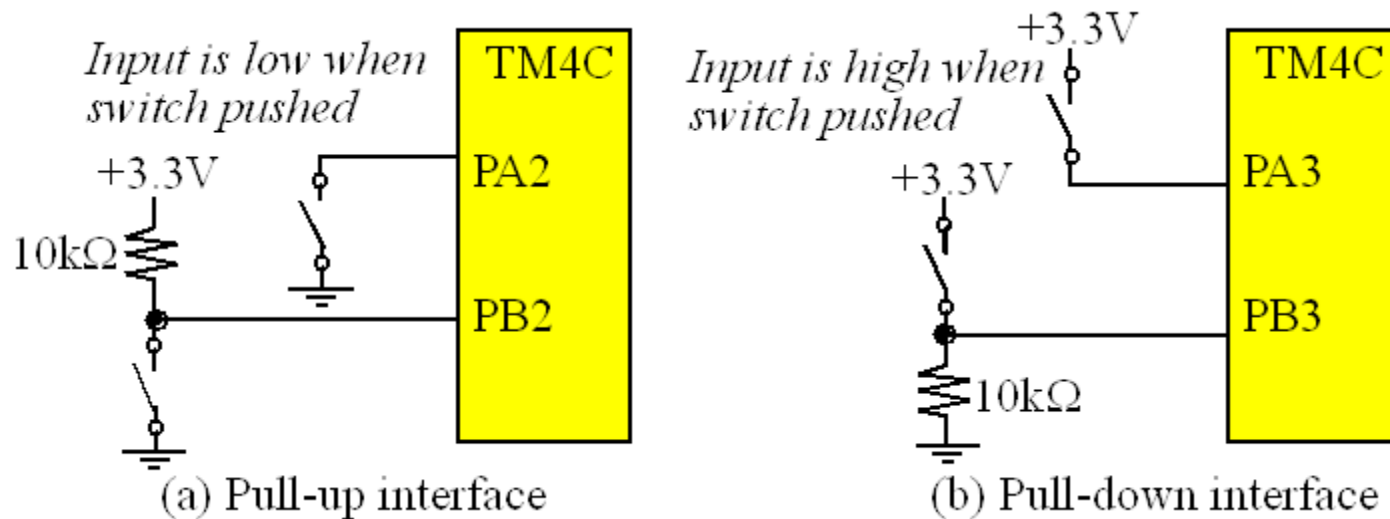

Figure 12.4. Edge-triggered interfaces can generate interrupts on a switch touch.
- Compare the interfaces on Port A to the interfaces on Port B illustrated in Figure 12.4.